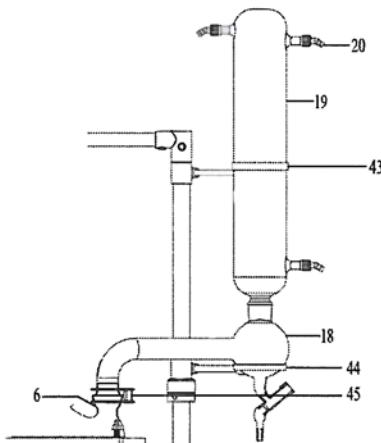

Figure 2.2.6 Installation of Condensing Kit
Put the condenser (19) on the upper joint of the condensing dispenser (18), the rubber bracket (43) is locked around the upper portion of the condenser (19), please see figure 2.2.6.2.